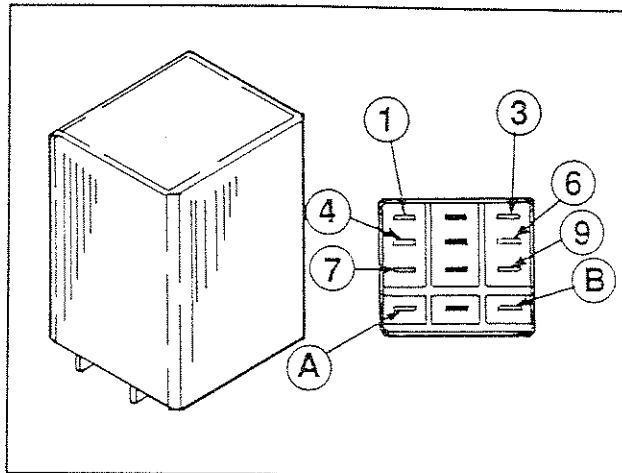

Figure 2. Transfer Relay Test Points
1. See Figure 2. Disconnect all wires from the transfer relay, to prevent interaction.